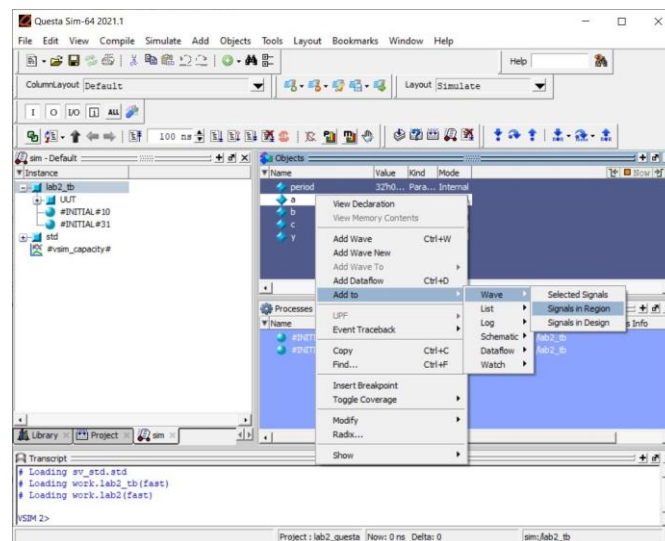

Fig. 2.11: Adding waves to the Signals in Objects box (dark blue box) in the upper right corner.
- Check if the *Objects* dark blue box is appearing in the window. If this box does not appear click on *View* and select *Objects*. Select any of the objects that were inputs and outputs of the code written and then click on *Add to* then select *Wave* and select *Signals in Region*. (Fig. 2.11).